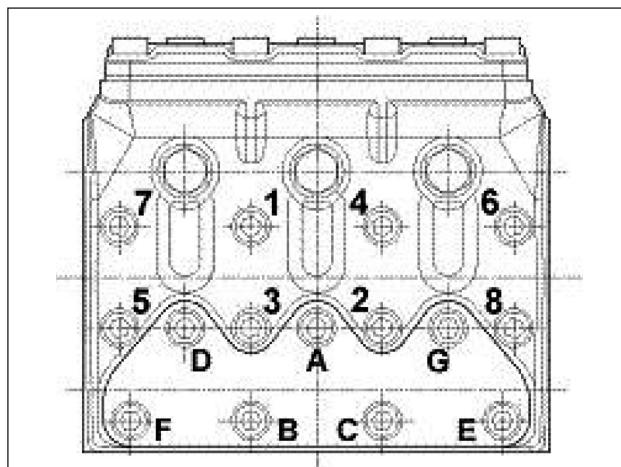

Fig. 24
** The head fixing screws exploded view pos. 39 (65-KFR) must be tightened with a torque wrench, lubricating the threaded shank, respecting the order shown in the diagram in Fig. 24.
*** The valve cover fixing screws exploded view pos. 40 (61-KFR) must be tightened with a torque wrench, lubricating the threaded shank, respecting the order shown in the diagram in Fig. 24.